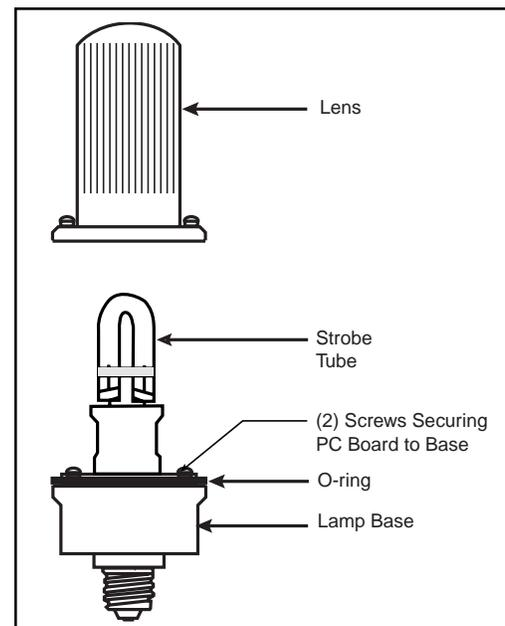

Figure 2. Strobe Assembly
2. Remove two screws from lens and remove lens as shown in Figure 2.